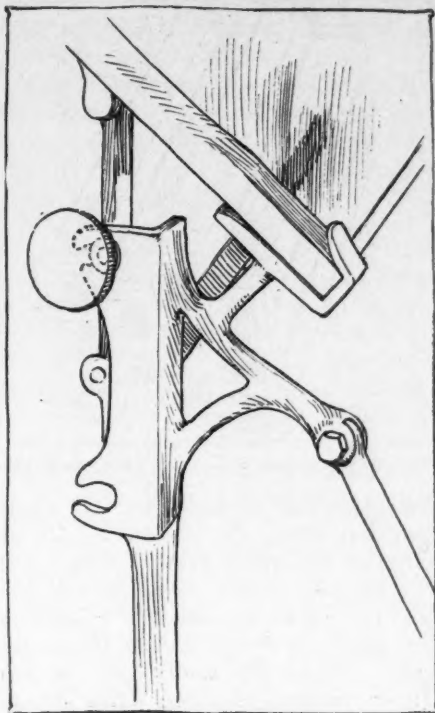

FIG. 4—DIXEY WINDSHIELD
**Chicago Wind Shield Co.**—Among the several types of windshields manufactured and shown by the Chicago Wind Shield Co. two styles are illustrated in Figs. 4 and 5, known as the Dixey and the Chicago-matic windshields. The Dixey windshield is an inside folding shield so constructed as to be rattleproof. This style is intended for cars that require the fold to be made on the inside, owing to the fact that on some cars the hood is made close up to the dash, in which case the windshield would interfere with the raising of the hood. The double fold permits it to fold towards the driver and pass the steering wheel. It is not necessary to reach over the front to operate it; nor are there any thumb screws to be taken out. The entire operation, including fastening and unfastening, can be done without leaving the seat. This shield can be used on any make of car; is brass-bound, with 3/16 by 3/4-inch half oval brass molding; all corners are reinforced with brass corner plates, and 1/4-inch plate glass is used, which is set in felt in a heavy metal channel running through the center of the shield. An adjustment attachment